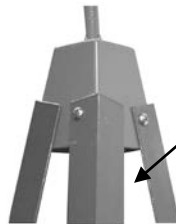
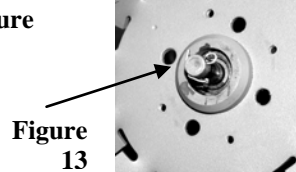
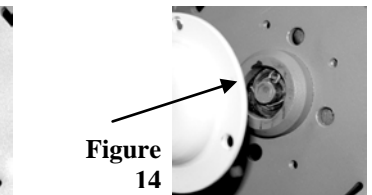

Figure 12
Figure 13
Figure 14
Insert Cotter Pins (N) to secure Wheel Arm to Mast Head (Figure 12), and Center Wheel to Mast Head (Figure 13). Screw Cap (E) over Cotter Pin (Figure 14).